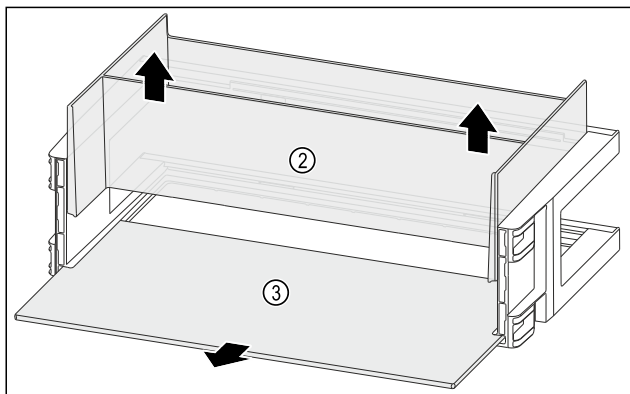

Fig. 168
- ▶ Izvadite organizator Fig. 168 (2) prema gore.
- ▶ Izvadite policu Fig. 168 (3).